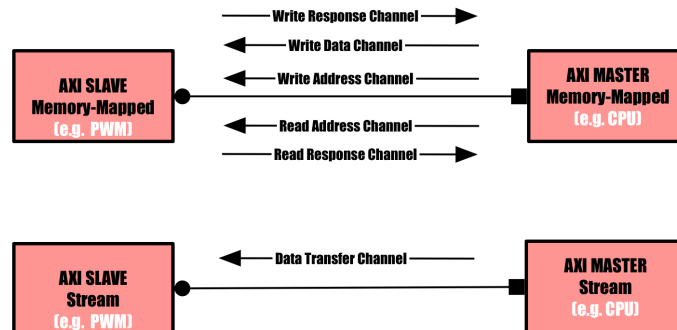

Figure 2: AXI Memory Mapped and AXI Stream architecture
As we have talked about customization per application, you can use two types of advanced eXtensible interfaces (AXIs): AXI Stream and AXI Memory Mapped (MM). Basically, a simple application such as computation of some stream of data can make use of AXI Stream, while a more complex one (e.g. writing on a memory) might need access to addresses (so AXI MM comes in place). Their diagrams can be seen in Figure 2. **In our case, we will use an AXI Memory Mapped architecture, and PWM (Pulse Width Modulation) slave module to control LEDs and a buzzer.**
open *PWM_v1_0_S00_AXI.vhd*, you will see the registers specific to the AXI-Memory Map architecture (Figure 2). In addition, the user can add its own logic and signals. Thus, you can see the implementation of PWM outlined by the following comments: